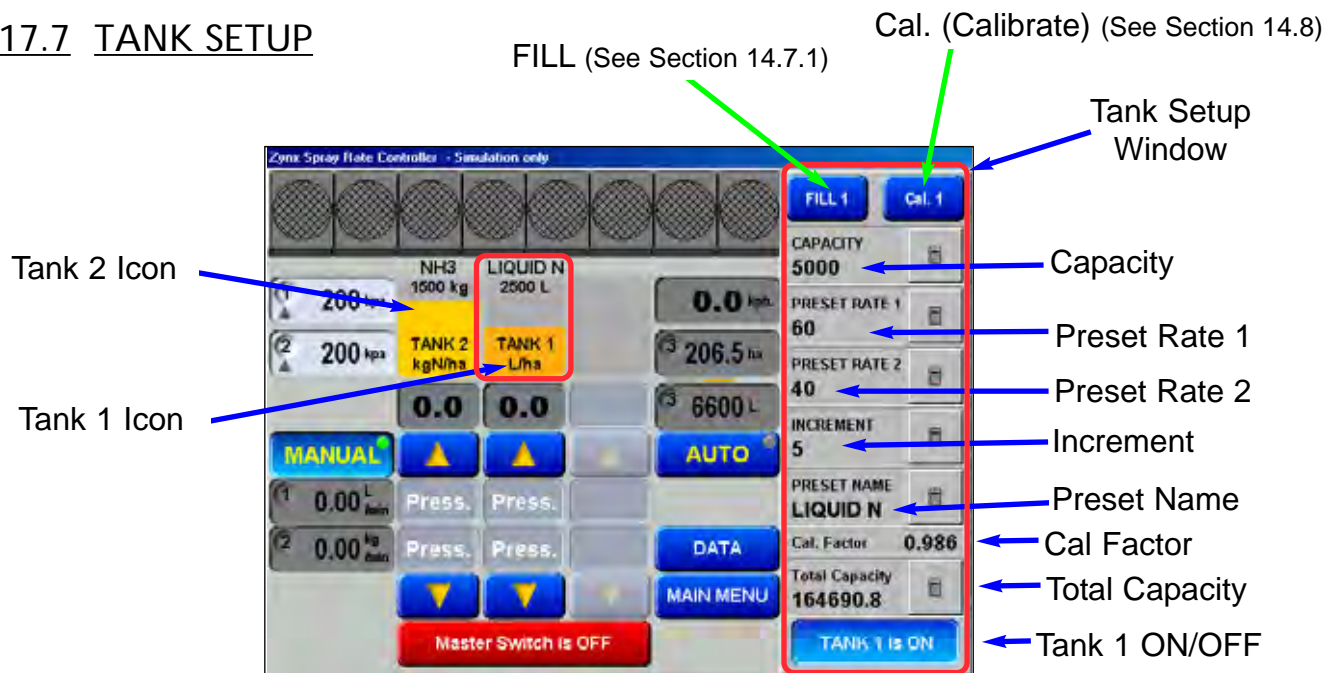

Figure 60: Tank Setup window
7. Select the Tank icon, the Tank Setup window will be displayed, see Figure 60. Write down the current 'Cal. Factor' for the Flow meter as displayed.